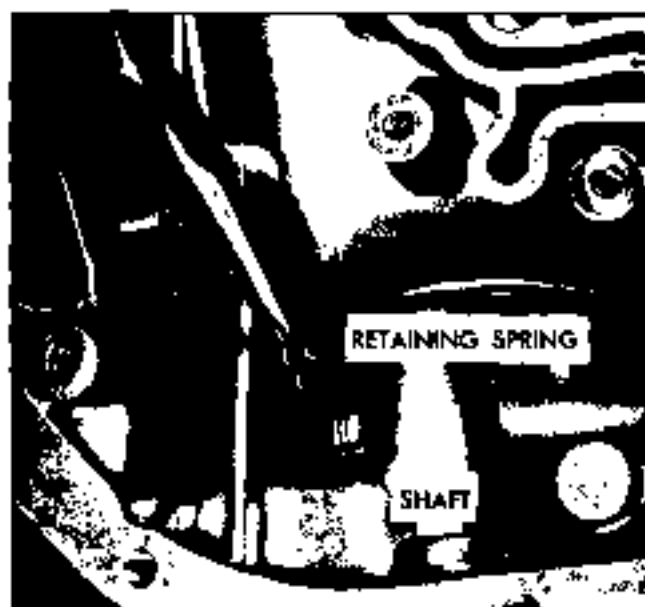

Fig. 7E-150 Installing Parking Shaft Retaining Spring
6. Install rear band so that two lugs index with two anchor pins. Check to make sure band is seated on lugs (Fig. 7E-153).